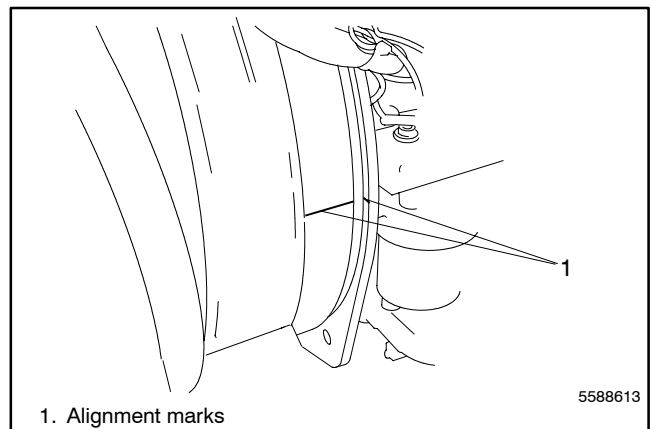

Figure 15-6 Alignment Marks on Stator and Engine Adapter
10. Use a permanent marker (or scribe) and make an alignment mark on the stator and engine adapter for reference during reassembly. See Figure 15-6.